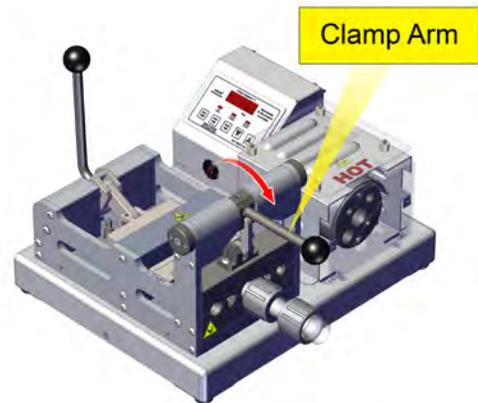

Fig. 8. Clamp Arm locked into position
- Activate Clamp Arm completely forward to a locking position. See Fig. 8.